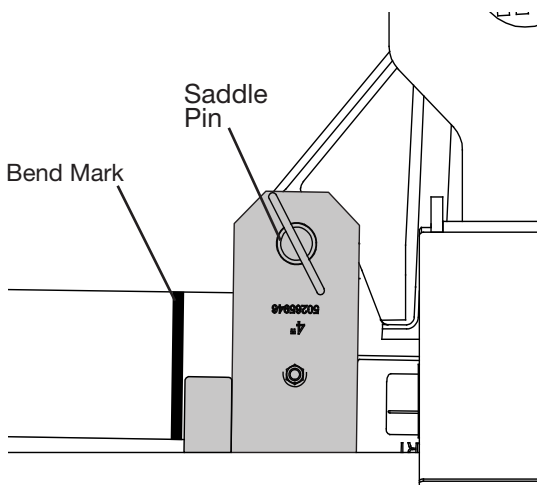

Figure 15
6. Slide the conduit through the front of the saddle and shoe, or the saddle can be pinned to the shoe after the conduit is in position. Position the conduit so the bending mark is aligned with the outer edge of the saddle lip. (Fig. 15)